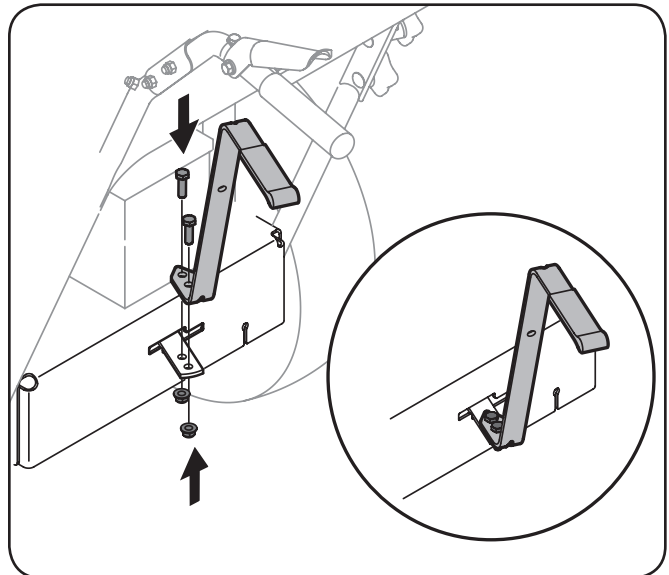

Figure 3-6
3. Position the upper shift lever into a vertical position aligning the holes in the lever with the holes in the shift plate. See Figure 3-6.
4. Secure the lever to the plate using the two screws and two nuts removed earlier. See Figure 3-6 inset.